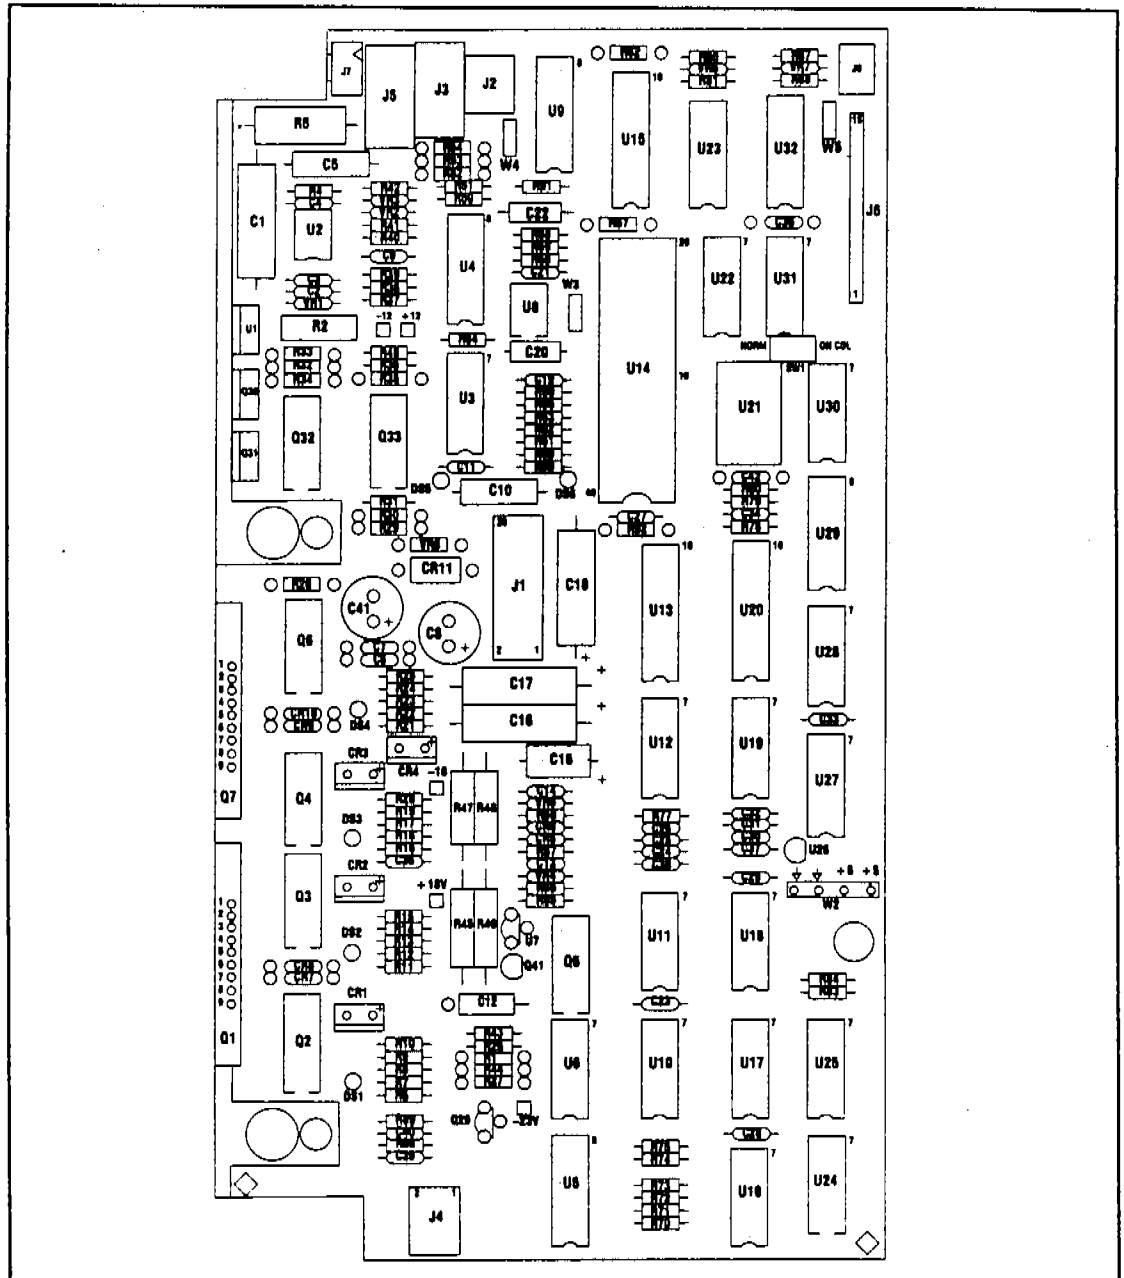

Figure C-11. Injector main board (07678-60025).
3. Hold **START** down to run the syringe motor continuously. Wait about 10 seconds for a response. Note the LEDs on the injector main board (figure C-11). They should light in the following sequence: